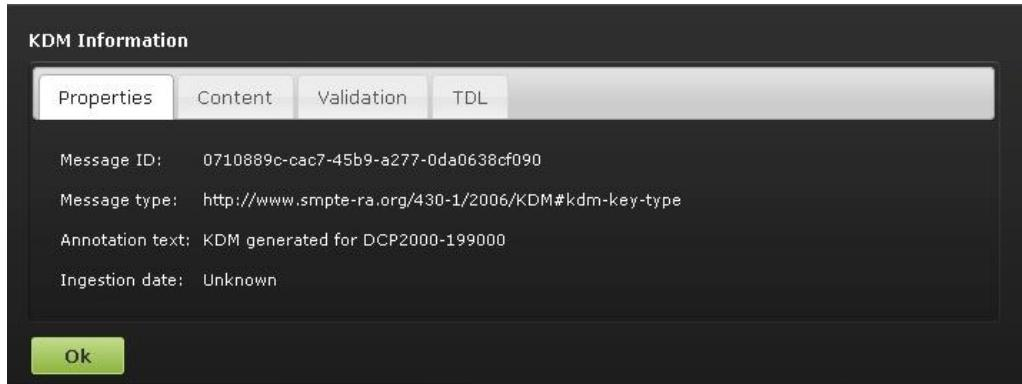

Figure 293: Properties Tab
- The Properties tab displays the following information about the selected KDM (Figure 293):